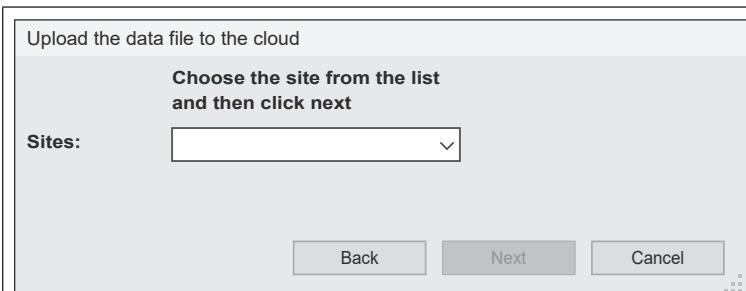

Fig. 107
3. Enter the **email** and **password** login details that were created for the **SMS Wizard PRO App**, then click on the **'NEXT'** button. The sites drop down list prompt window will appear, **Fig.107**.